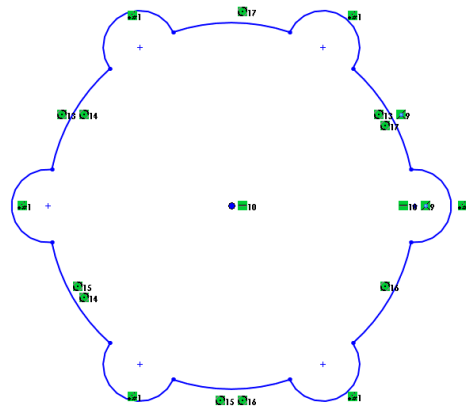

Figure 3-78 Outer loop of the sketch
- Use the **Circular Sketch Pattern** tool to create a circular pattern of circles in the outer loop, refer to Figure 3-78.
19. Choose **OK** after trimming. The outer loop of the sketch is created, as shown in Figure 3-78.